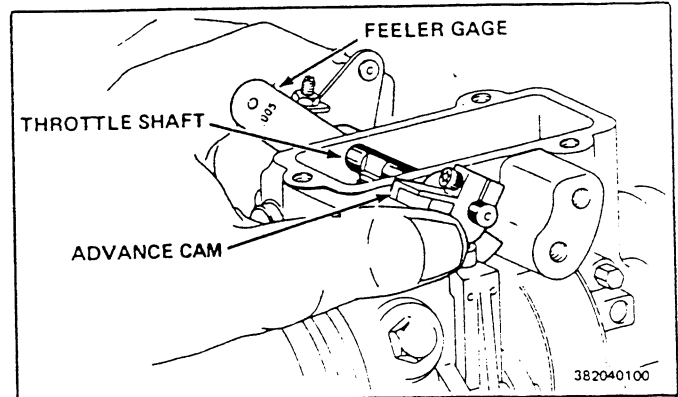

Fig. 6C5-35 Advance Cam Positioning
20. Insert a .005" feeler gage between the white washer on the throttle shaft and the pump housing. Squeeze the cam and throttle shaft together and tighten the cam screw. Tighten to 3.4 N·m (30 lbs.-in.). Secure with LOCTITE 290 or equivalent. Remove Tool J-29601. Refer to Fig. 6C5-35.
21. Reinstall the guide stud with a new washer, making certain that the upper extension of the metering valve spring rides on top of the guide stud. Tighten the guide stud to 9.5 N·m (85 lbs.-in.). Overtightening the guide stud may strip the threads in the aluminum housing (Fig. 6C5-31).
23. Install new pump cover seal. Make sure the screws are not in the cover and position the cover about 1/4 inch forward (toward shaft end) and about 1/8 inch above the pump (Fig. 6C5-32).